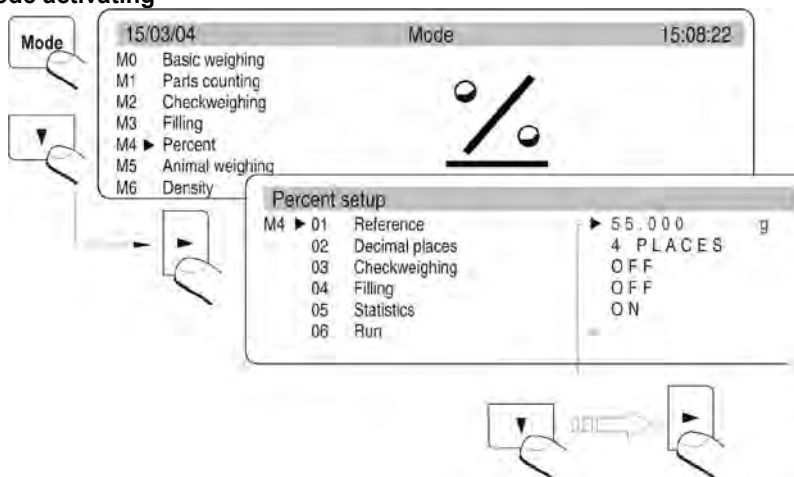

Fig. 44. Percent setup – mode activating
- 3 – REF – reference mass (see Fig. 44 – M4 01)